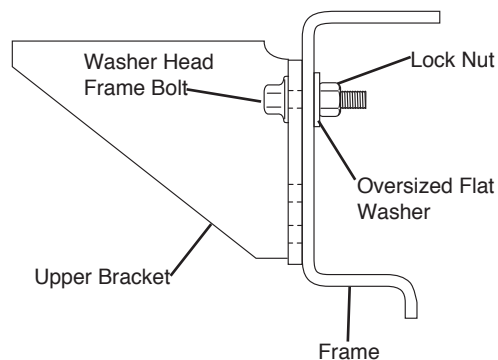

fig. 11
3. Except for Dodge vehicles, loosely install a washer head frame bolt, oversized flat washer, and lock nut (Fig. 11).